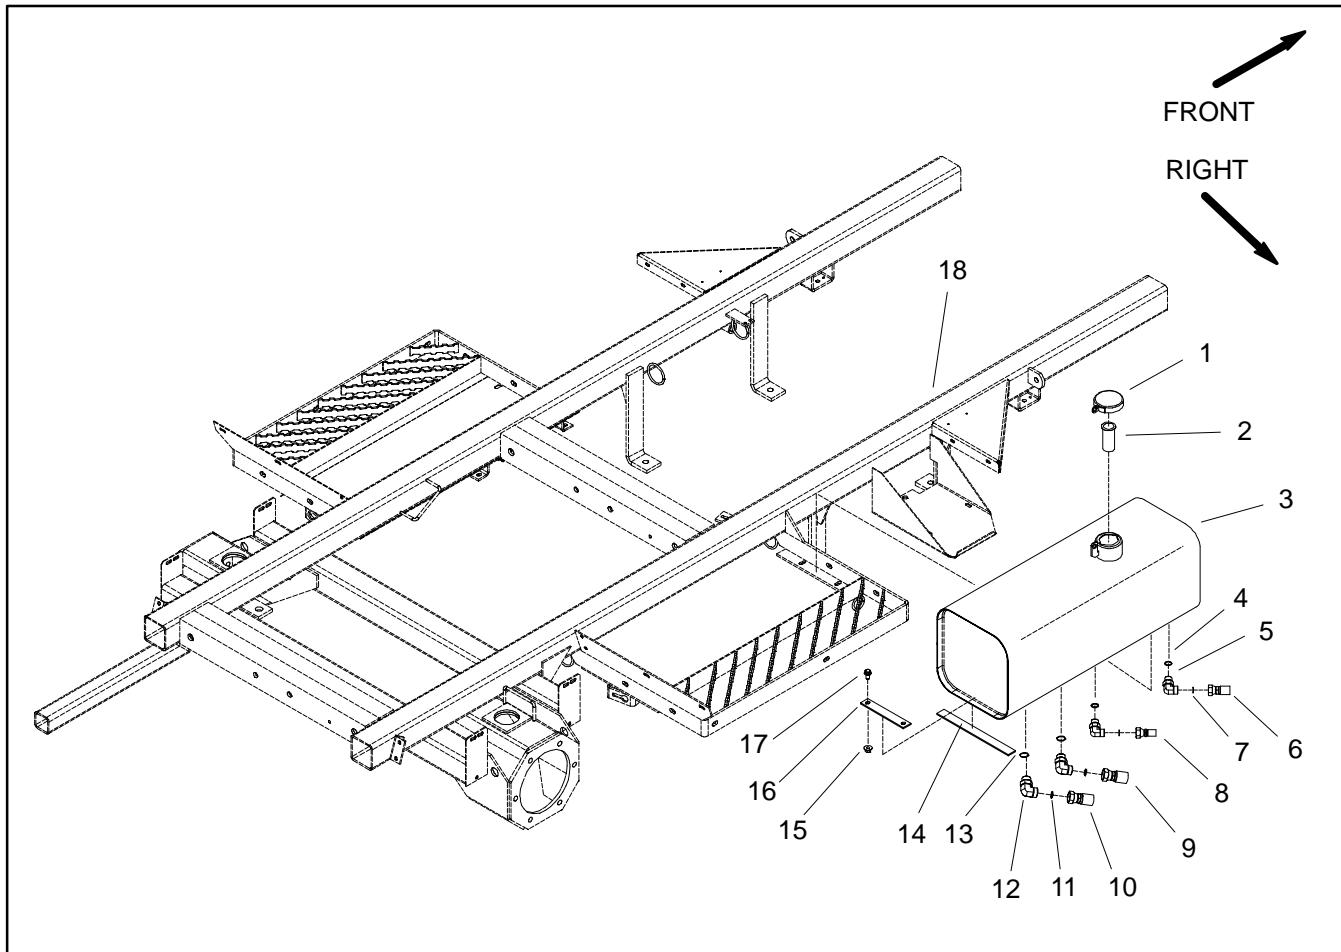

Figure 54
## Removal (Fig. 54)
5. Remove hydraulic reservoir from machine using Figure 54 as a guide.
## Installation (Fig. 54)
1. Install hydraulic reservoir to machine using Figure 54 as a guide.